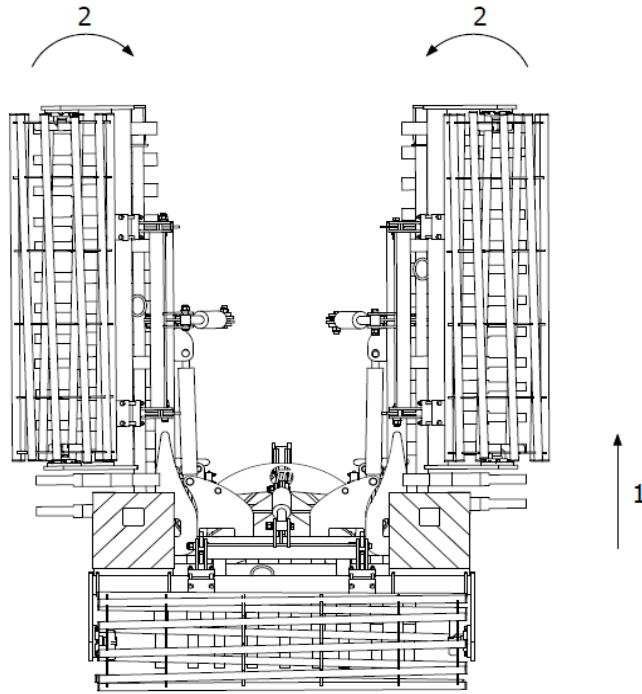

Fig. 5 Implement opening sequence: 1- raise the implement up to the maximum, 2- fold the side extensions into the “closed” position.
1. First, raise the implement as much as possible to be able to fold it correctly, avoiding the risk of the folding arms snagging on the ground during movement (Fig. 5).
2. Next, fold the implement side extensions hydraulically into the “closed” position to ensure that the side extension lock mechanism will unlock and allow the implement arms to be opened at a later stage. This operation is necessary each time the arms are opened (Fig. 5).